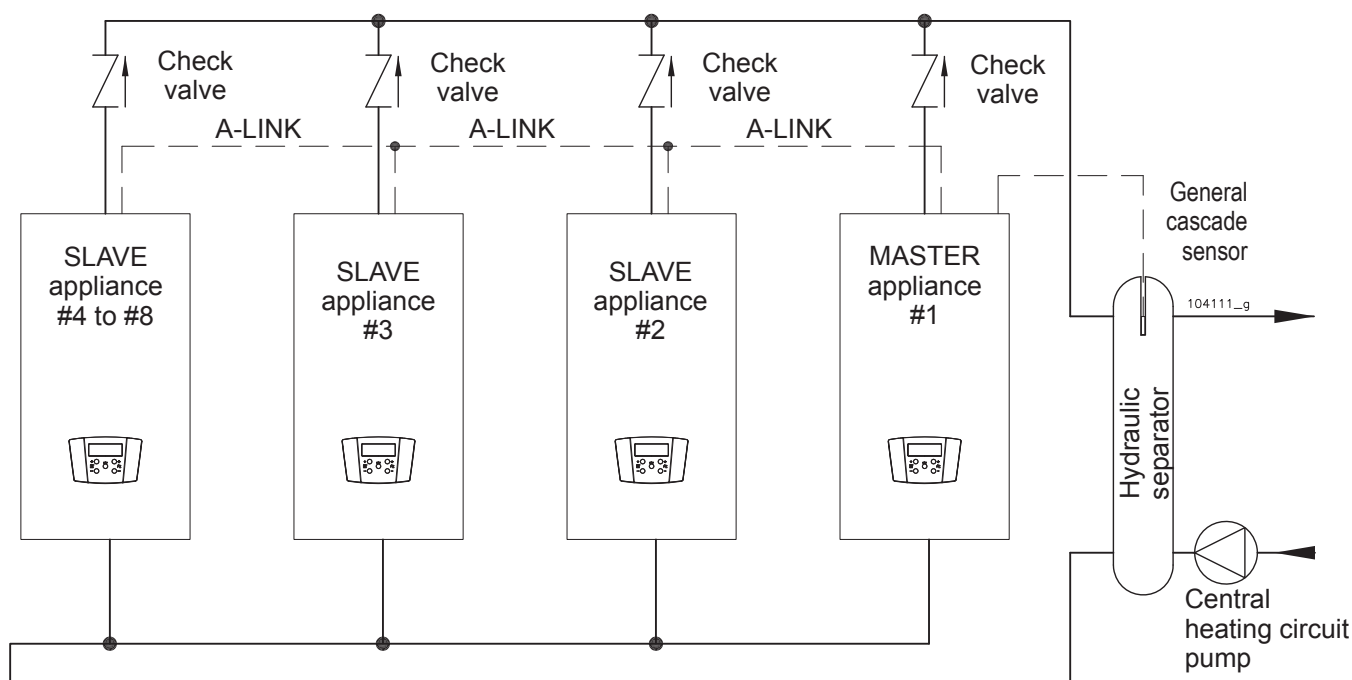

Figure 5-10 – Concept diagram: connecting appliances in a cascade
This appliance can be connected in a cascade including up to a maximum of 8 devices. The hydraulic connection diagram is shown in figure 5-10. Other types of hydraulic connections can be performed (ask the manufacturer for the reference diagrams). The cascade is managed by the motherboard in the device that will be defined here and then referred to as the "Master". To connect the appliances in a cascade, proceed as follows:
- 1 - Set up the hydraulic installation as shown in figure 5-10;